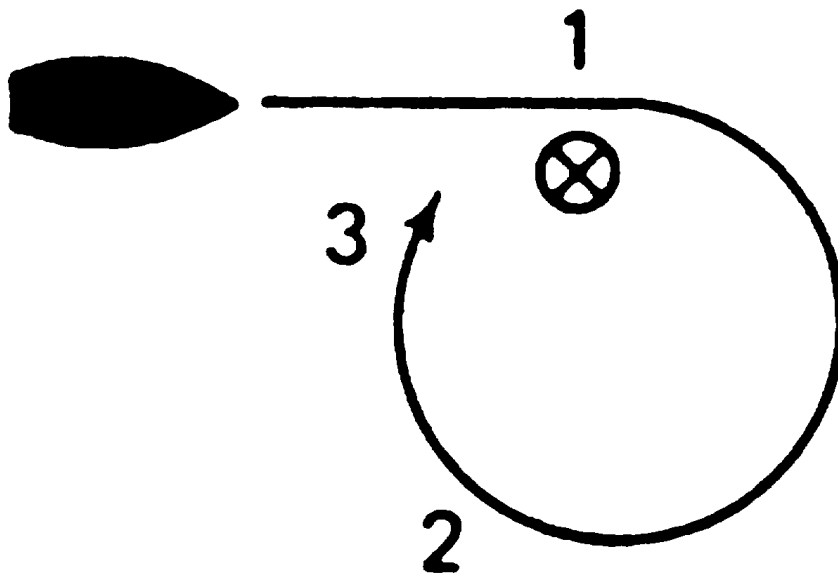

FIGURE 17-5 ANDERSON TURN
4. Ease the rudder and back the engines as required to attain the proper final position. (See Figure 17-5.)